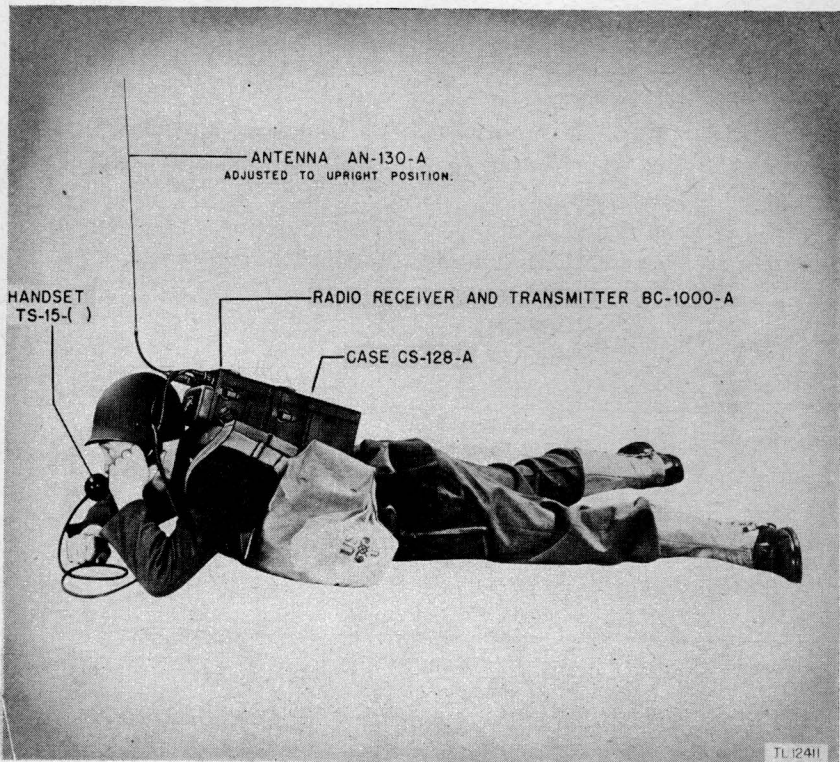

Figure 2. Radio Set SCR-300-A in use, showing adjustment of Antenna AN-130-A.
*e.* TYPE OF ANTENNA. Radio Set SCR-300-A is designed for transmission and reception with a vertically polarized antenna. Therefore, great care must be taken to maintain the antenna in a vertical position at all times, regardless of the position of the set. (See fig. 2.)